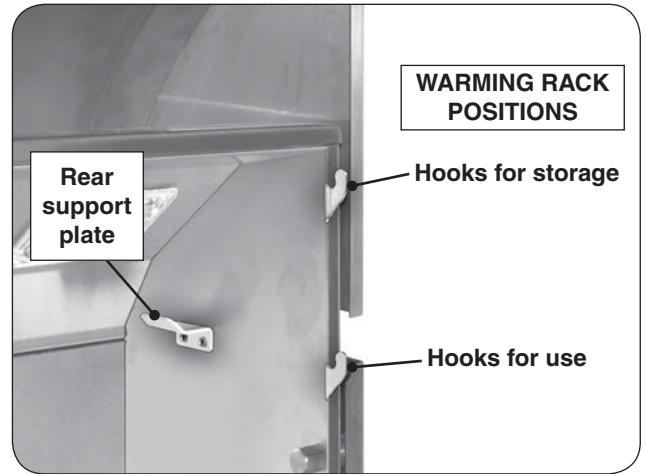
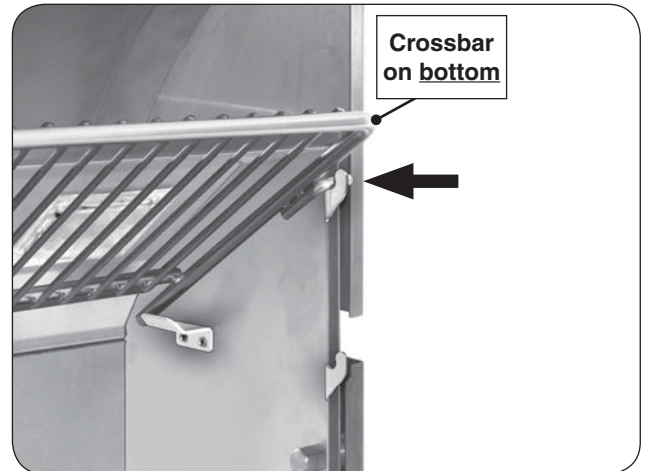

Fig. 23-1 Warming rack hooks
Fig. 23-3 Place warming rack in storage position
1. Locate the warming rack hooks and rear supports found on the upper portion of the grill oven (see Fig. 23-1).
3. Use the top hooks for storage (see Fig. 23-1 and Fig. 23-3).